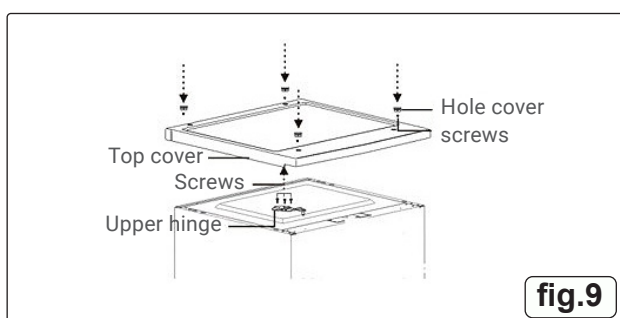

fig.9
12. Reattach the top cover over the cabinet to complete the door reversal. Fig. 9